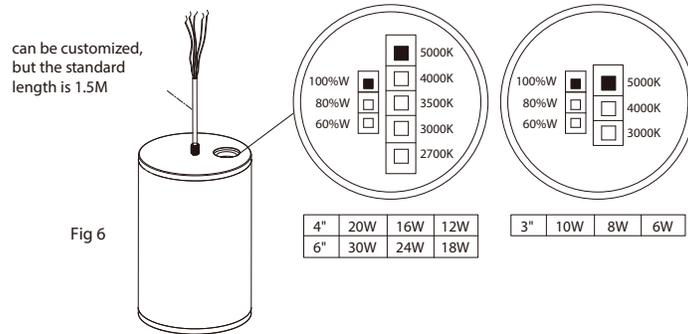

Fig 6
1. Adjust the length of the wire according to the actual needs. Select CCT and power according to the requirements. (Fig 6)